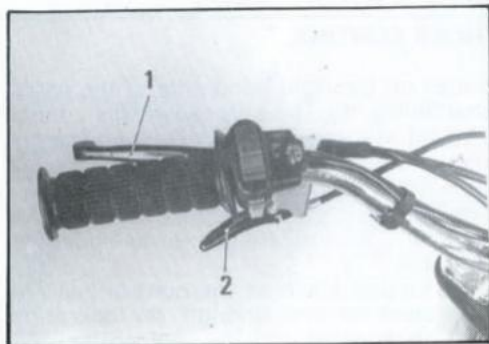

Fig. 11
Situated on the left side of the handlebar, (1) (Fig. 11). This brake control should be used first when reducing speed or stopping.
Placed on the left hand side of the handlebar (2) (Fig. 11), it is used to activate the decompressor which aids engine starting using pedals.